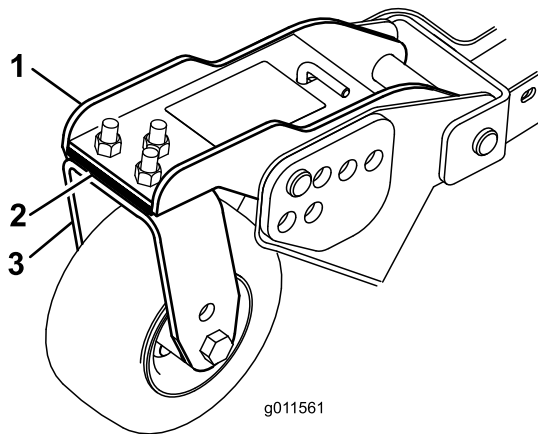

Figure 75
1. Remove the cap screws and nuts securing the castor arm to the castor fork (Figure 75).